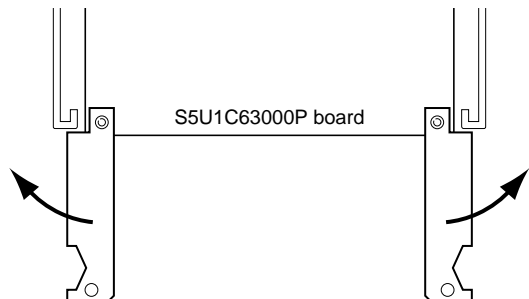

Fig. 2.1.3
- (1) Unfasten the screws located on the left and right sides of the front panel of the ICE (S5U1C63000H1/S5U1C63000H2) by turning them counterclockwise, then remove the front panel.
- (2) Insert the S5U1C63000P board into the ICE along its uppermost guide rails until the tip of the board touches the back of the ICE. If some other board is mounted on the uppermost guide rails, remove that board by using the jig supplied with the ICE before you insert the S5U1C63000P board (see Figure 2.1.3).
Set the jig included with the ICE into position as shown in Figure 2.1.3. Using this jig as a lever, push it toward the outside of the board evenly on the left and right sides. After confirming that the S5U1C63000P board has been dismantled from the backboard connector, pull the S5U1C63000P board out of the ICE.